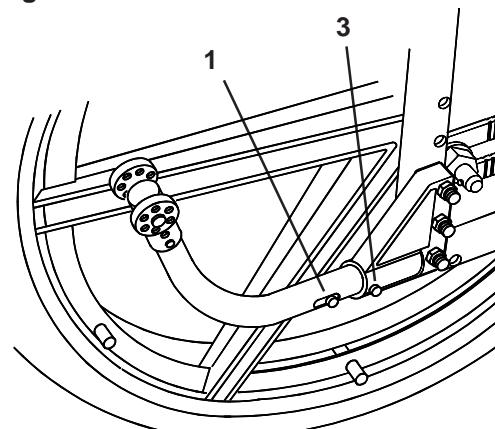

Fig. 22b
In some instances it can be wise to rotate the tubes through 180° (Fig. 22b). Hold the release pins (1) in and rotate the tubes through 180°, allowing the locking pins (3) to click into position.